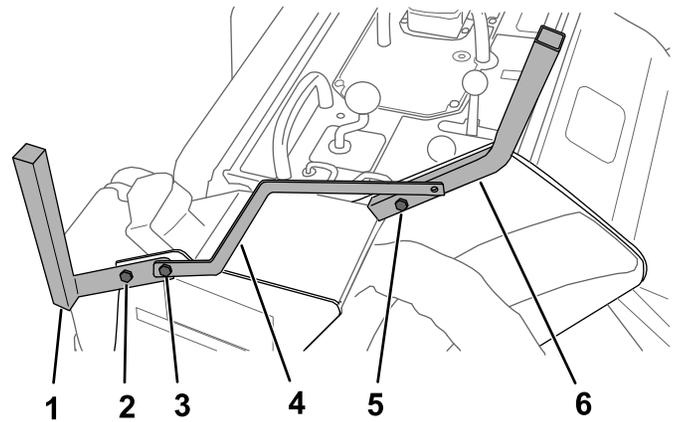

Figure 2
2. Install a front receiver tube to the right side of the machine using a bolt (1/4 x 1-1/2 inches) and locknut (1/4 inch) as shown in Figure 2.
3. Install the right, rear receiver tube using a bolt (5/16 x 1) and a retained locknut (5/16 inch) as shown in Figure 2.
4. Install the hose guard to the bracket of the rear receiver tube using a bolt (5/16 x 1-1/4 inch) and a retained locknut (5/16 inch) as shown in Figure 2.